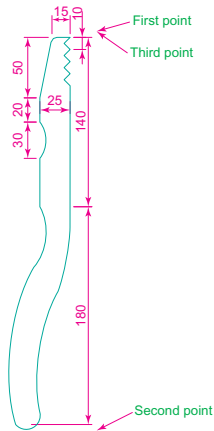

Fig. 14.16 First example – 3D Mirror – outline of object to be mirrored
1. Working on a layer colour **green**, construct the outline Fig. 14.16.